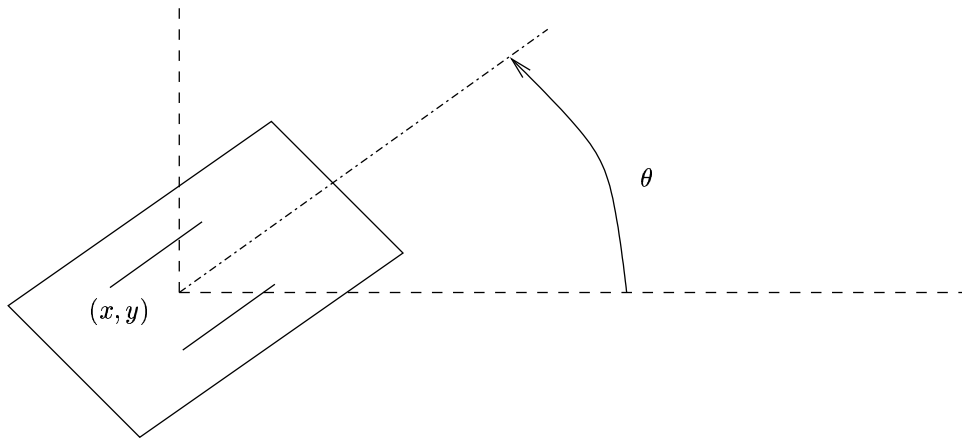

Figure 5. Cart.
- P5. [Non-holonomic Planning, 20pts] Consider the differentially driven cart in Figure 5 that has two independently driven wheels.